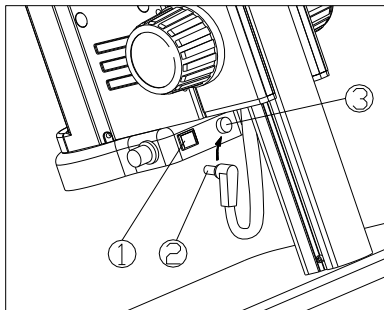

Fig. 6
- 1) Insert the power cord plug ② of body group into the ring light interface ③, then turn on the switch ① to start the light source. (See Fig.6)